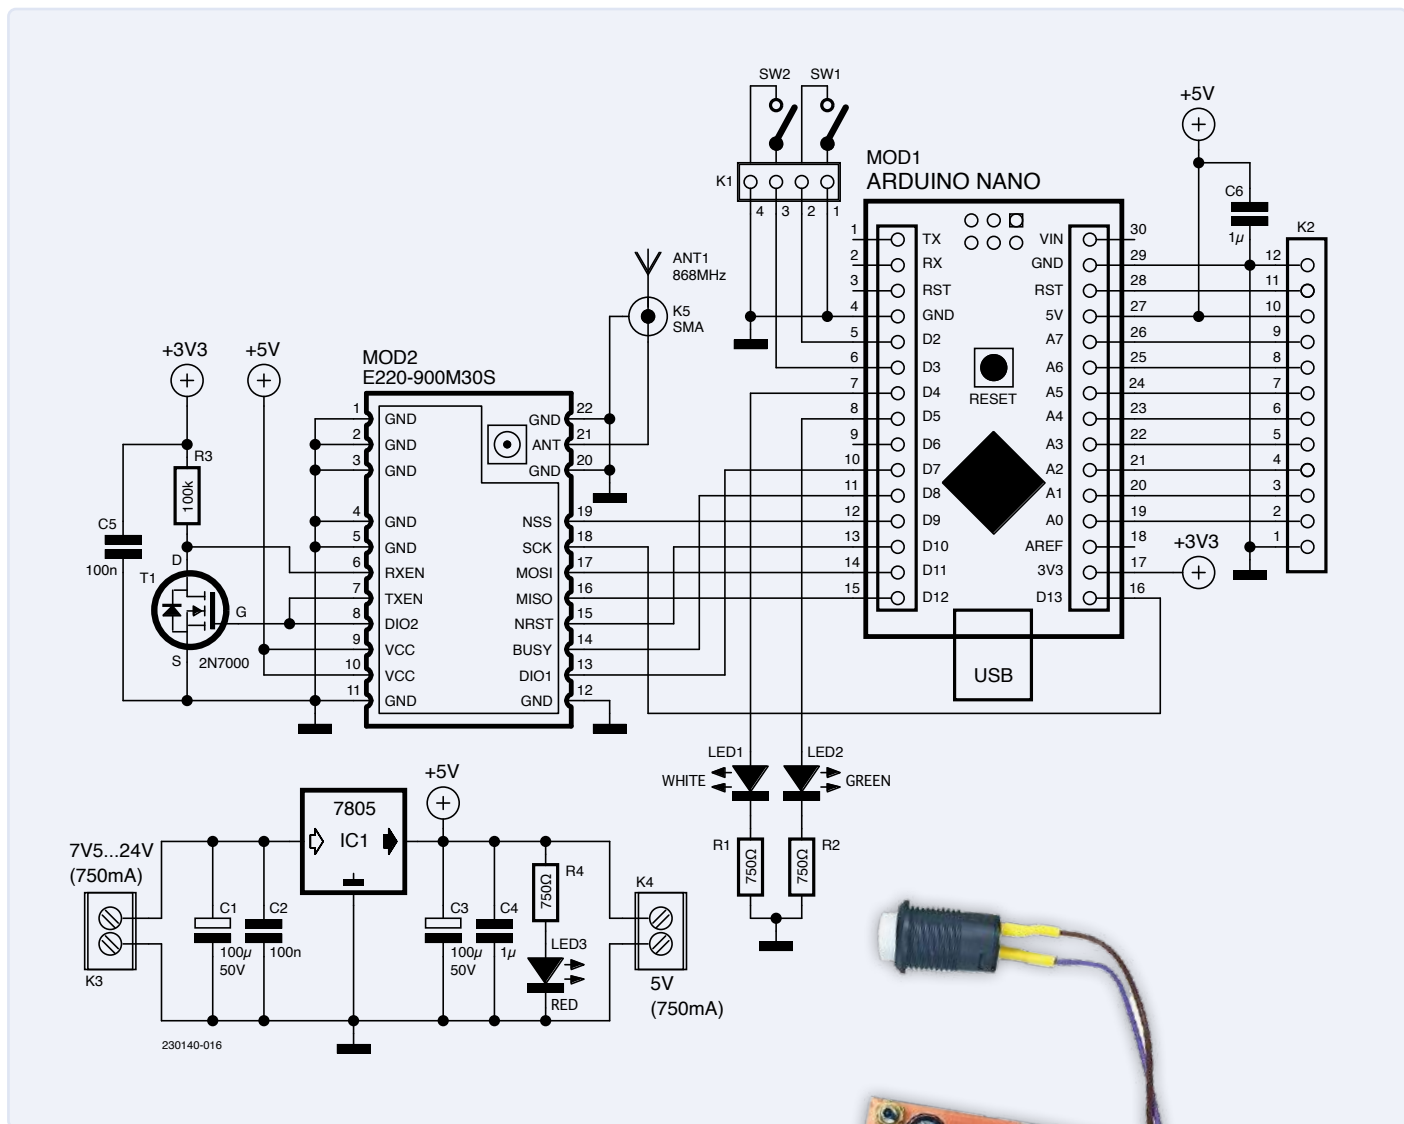

Figure 1: LoRa Swiss Army knife schematic.
In short, the schematic (**Figure 1**) covers the connections between the Arduino Nano and the E220-900M30S module, with a voltage regulator and an LED confirming the presence of +5 V, and two other LEDs indicating a transmission (TX) or reception (RX).